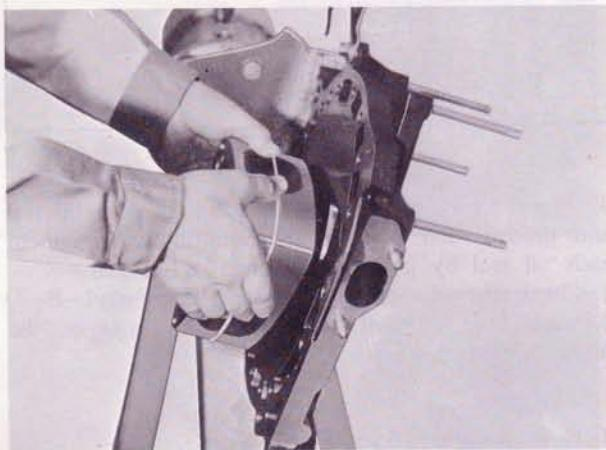

Fig. 1-62 Install front rotor assembly
4. Place the rotor assembly on the front housing as shown in Fig. 1-62, and turn the front housing with the rotor so that the sliding surface of the front housing faces upward.